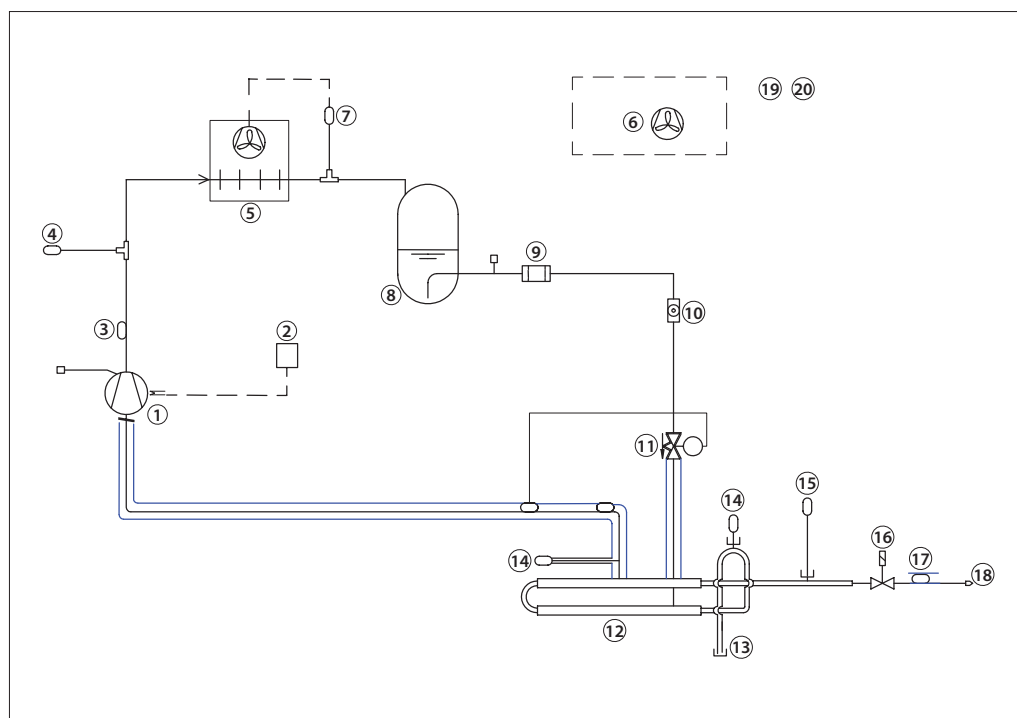

Fig. 1 - Purger R452A lay-out
Only 2 mechanical connections are needed for the purger (see fig. 1). The exchange of ammonia/NC gases with the main plant is done through the flange for ammonia access (see 13 in figure below), while the NC gas purge is done through the blow-off pipe after the purge restrictor (18).